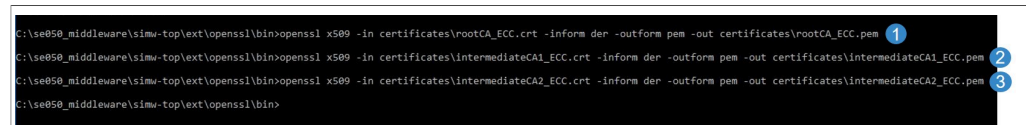

Figure 17. Convert ECC CA certificates
4. The downloaded certificates are in DER format, which is currently not supported by Watson. To convert them to PEM format using OpenSSL, send the commands shown in Figure 17: